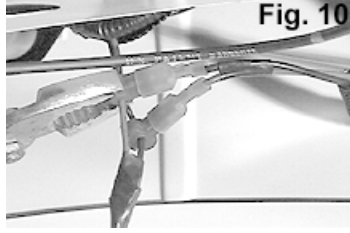

Fig. 10
- Actuator RED to Mustang BLACK (Fig. 10)